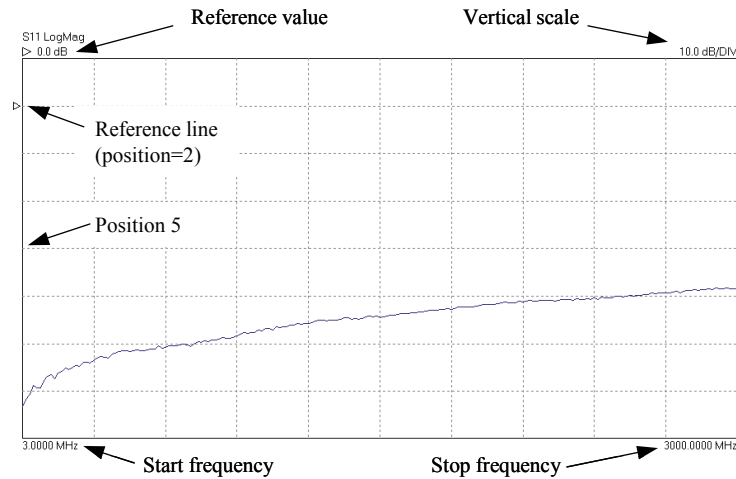

Figure 6.3 Display graph parameters
- Select the vertical axis values from the 'Vertical Axis' section. If desired, the Autoscale button can be clicked to automatically set the sensitivity and reference values. Note that reference position 1 is at the top (Fig. 6.3).